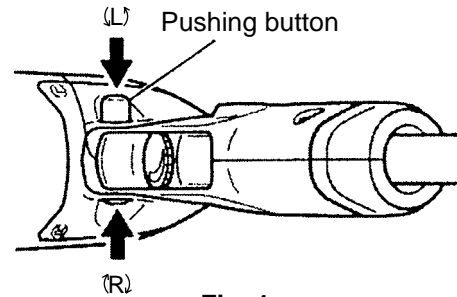

Fig. 1
The L-side of the push button is pushed to turn the bit counterclockwise. The (R) and (L) marks are provided on the body. (Fig. 1)